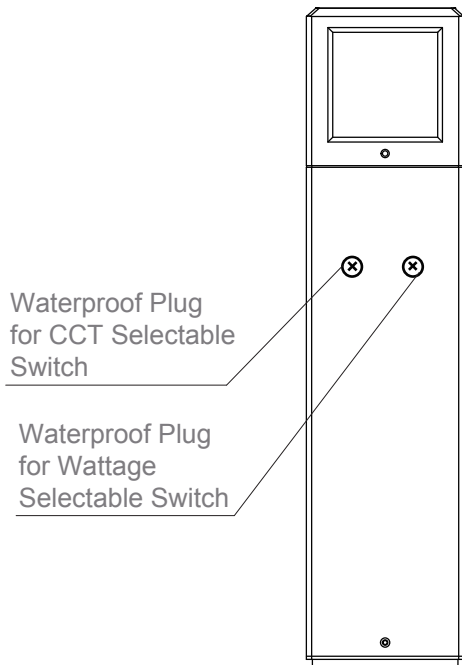

Figure 4
1. Remove the waterproof plugs with a cross screwdriver (by others). See figure 4.